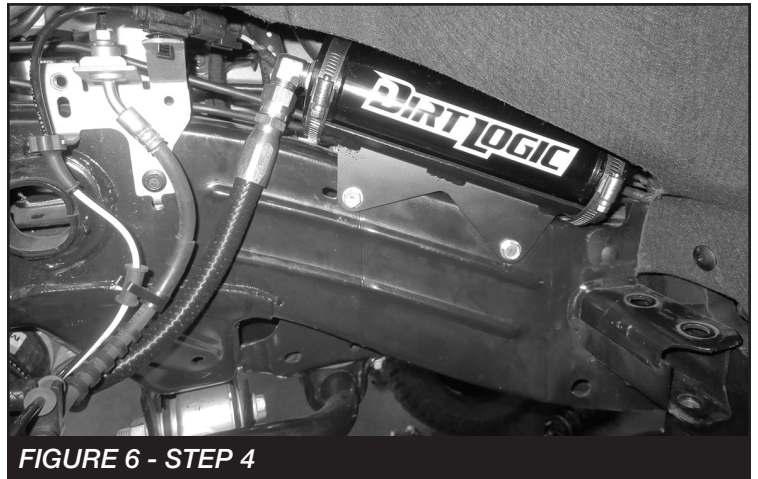

FIGURE 6 - STEP 4
4. Mount the resi to the mount using the supplied clamps. **SEE FIGURE 6**